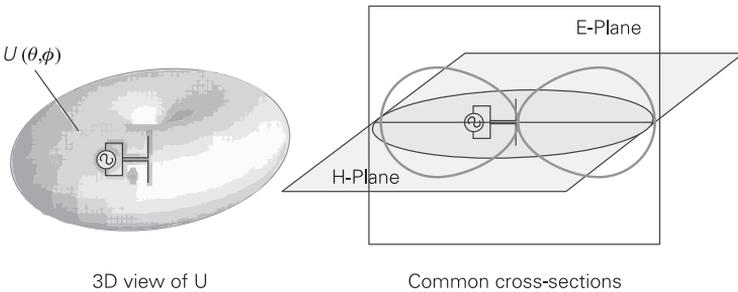

FIGURE 2.16 Simple dipole antenna radiation pattern
Generally, the dipole has a toroidal (donut-shaped) radiation pattern, where the axis of the toroid is aligned with the axis of the dipole. This pattern is shown on the left side of Figure 2-16. Most of the power transmitted by a dipole is in horizontal (H) plane with an omnidirectional pattern. In the other two planes,
perpendicular to the H plane, it has a transmission pattern like a figure 8. These planes are shown on the right side of Figure 2-16. It has nulls, no power radiated, along the north and the south poles.